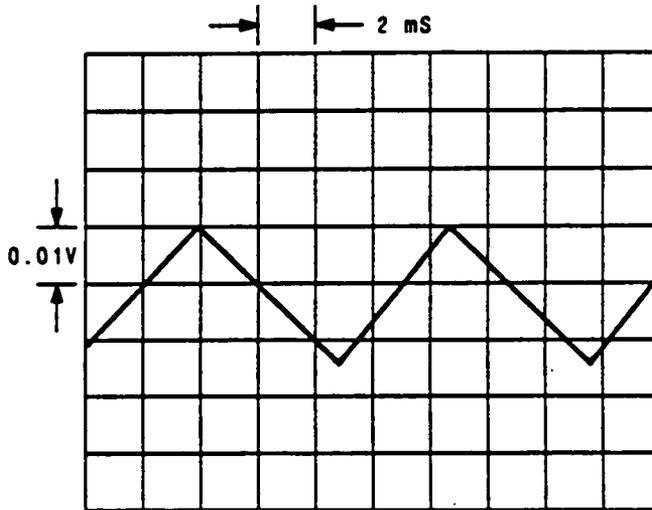

Figure 3. Oscilloscope Display of TP4 (dc coupled), Signal Generator's frequency 950 MHz, modulation EXT FM 99 kHz deviation (100 Hz square wave).
6. Verify that the oscilloscope displays the same waveform as shown in Figure 3.